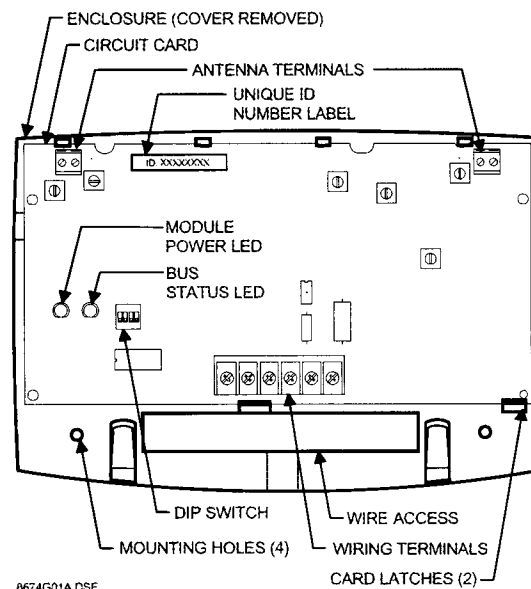
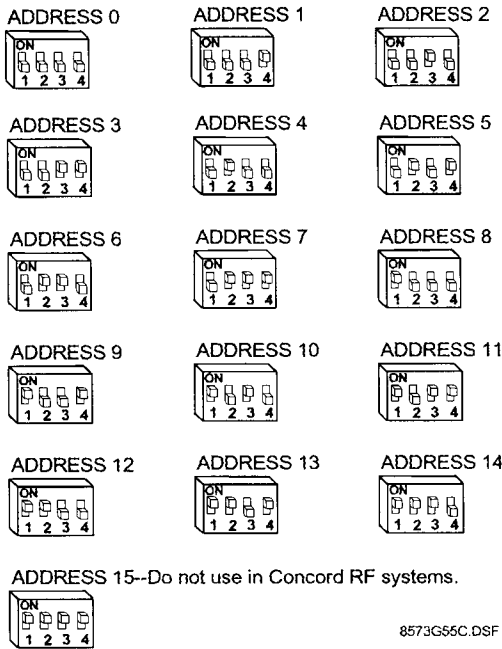

Figure 1. RF Transceiver Module Components
Figure 7. Device Address DIP Switch Settings
Figure 1 shows transceiver components and the following table 1 describes them.
1. Hold the base against the mounting surface and mark the four mounting holes (figure 1). Remember to leave at least 10 inches above the base for the antennas.
1. Loosen the **inside** terminals of the left and right antenna terminal blocks (see figure 1).
Locate the DIP switches on the transceiver (see figure 1) and set them to the desired address 0-15 (see figure 7).
2. Change the DIP switch setting on the transceiver (see figure 7). Remember, the setting must be different from all other bus devices.